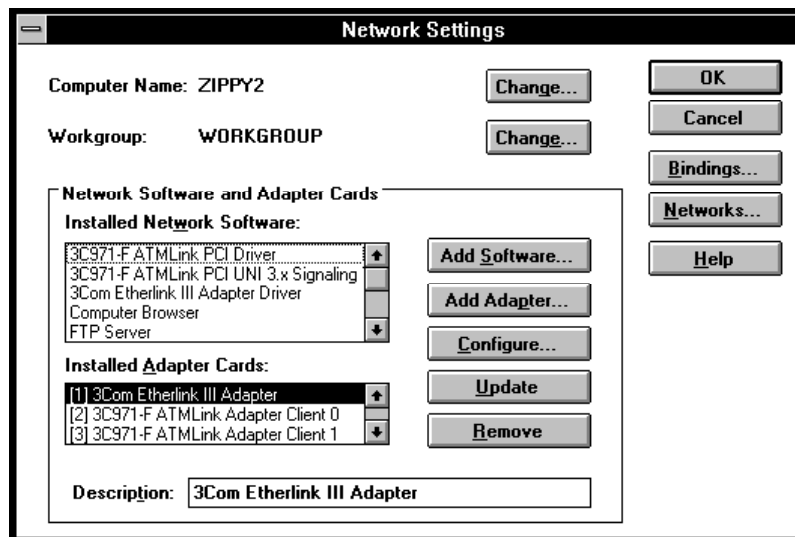

Figure 3-13 Removing 3C971-F Adapter and Drivers
- 2 Select the **Network** icon to access the **Network Settings** screen, shown in Figure 3-13.